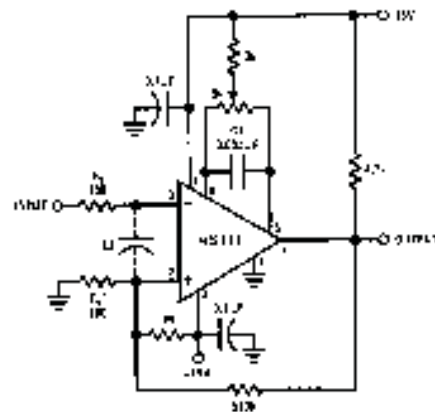

FIGURE 2. Conventional Positive Feedback
6. It is a standard procedure to use hysteresis (positive feedback) around a comparator, to prevent oscillation, and to avoid excessive noise on the output because the comparator is a good amplifier for its own noise. In the circuit of Figure 2, the feedback from the output to the positive input will cause about 3 mV of hysteresis. However, if R_S is larger than 100Ω , such as $50\text{ k}\Omega$, it would not be reasonable to simply increase the value of the positive feedback resistor above $510\text{ k}\Omega$. The circuit of Figure 3 could be used, but it is rather awkward. See the notes in paragraph 7 below.